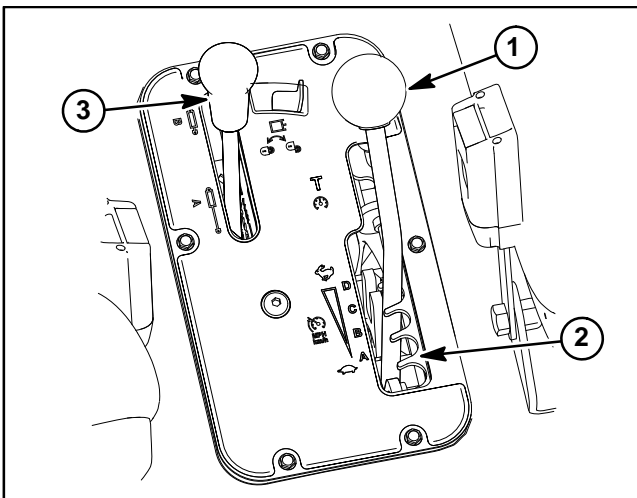

Figure 15
2. Remove knobs from speed range lever and hydraulic lift lever on seat base console (Fig. 15).